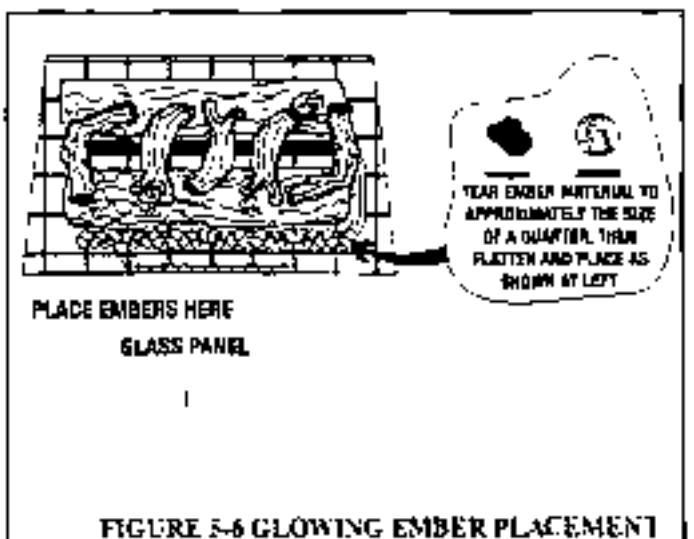

FIGURE 5-6 GLOWING EMBER PLACEMENT
4. Place the glowing embers evenly along the edge of the burner tube in front of the front log, covering the flame holes. Refer to Figure 5-6.